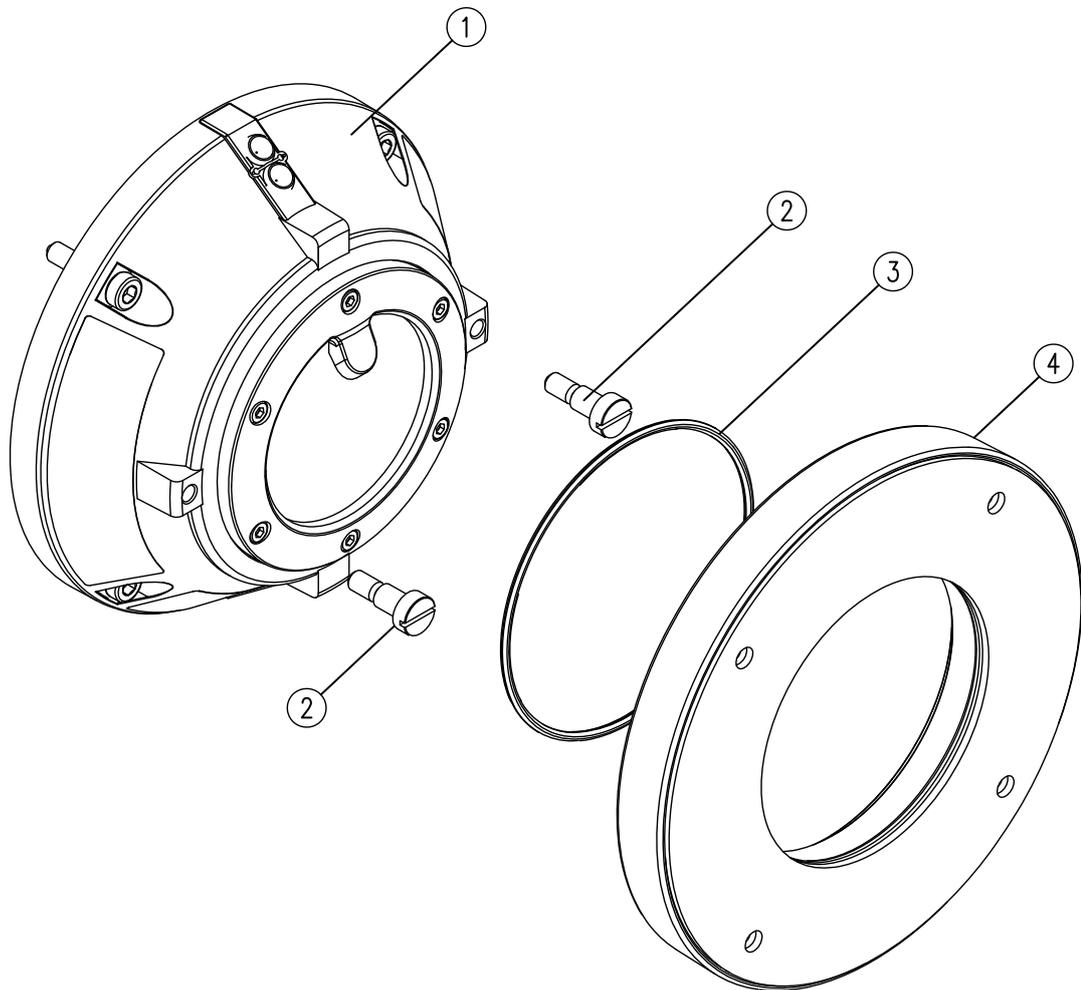

Fig. 20: FMX5000 IR Ex bracket mount installation
1. ➤ Drill the holes required for installing the console. Use the console as a drilling template. Observe the dimensions of the console (Fig. 20/4) and the detector.
3. ➤ Screw the M5 screws (Fig. 20/2) supplied into the detector (Fig. 20/1).
8. ▶ High seal tightness requirements: Insert the O-ring (Fig. 20/3) supplied into the console groove.
10. ▶ Back off the M5 screws (Fig. 20/2) in the detector by about one turn, place the detector back onto the console and lock into place with the bayonet catch.